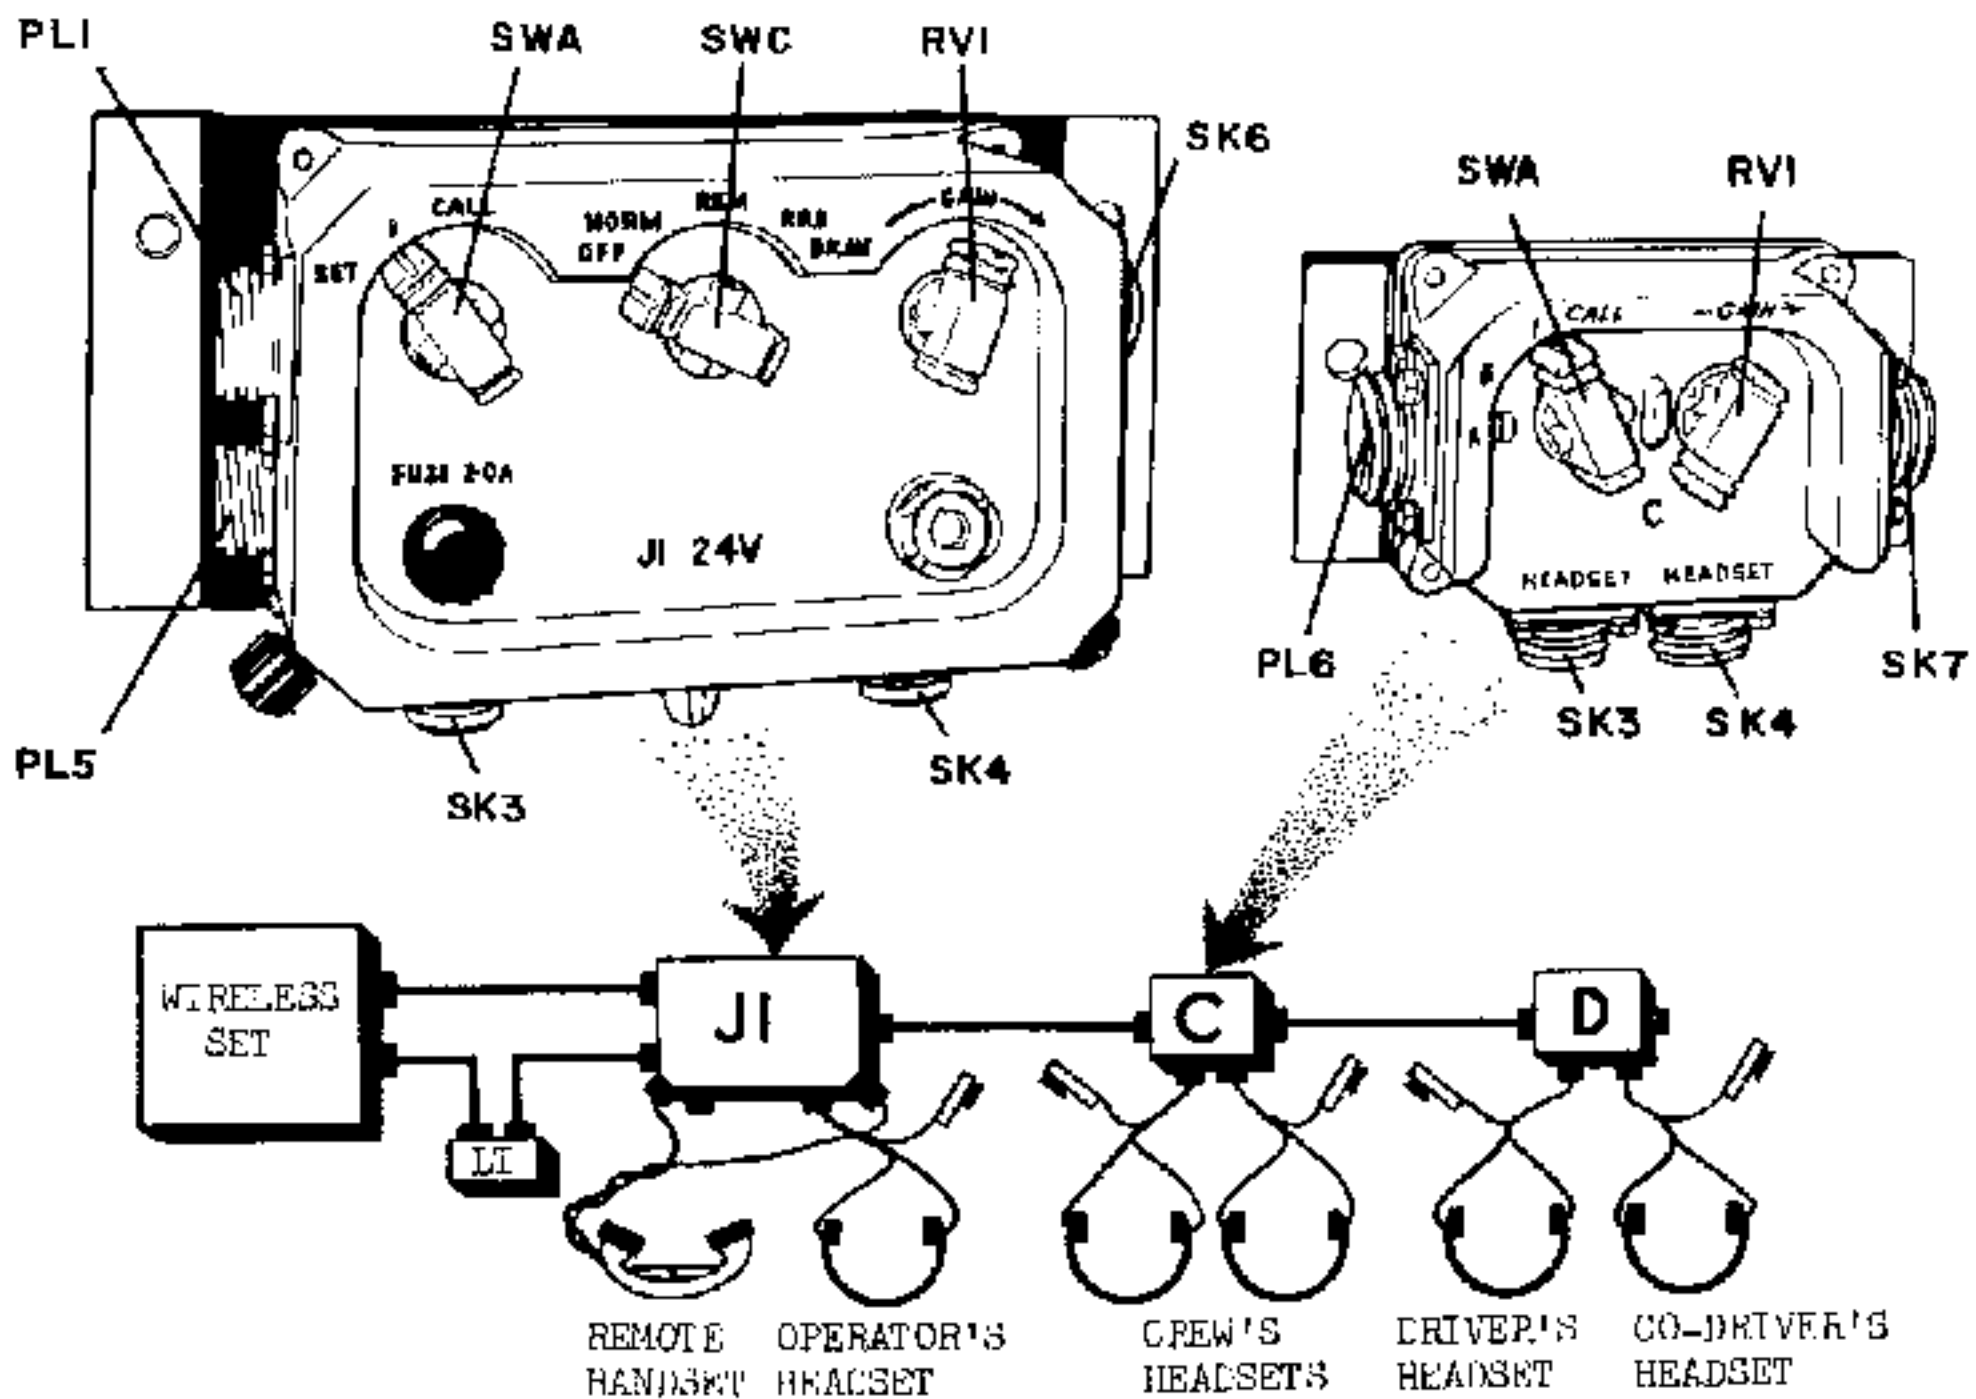

FIG 22
- (b) Referring to Fig 22, turn switch SWA on Junction box 'J1' to SET. Turn switch SWA on control unit 'C' to position 'B'; this position for set 'B' is always used when the operator's control unit 'C' is fitted in a one-set installation.